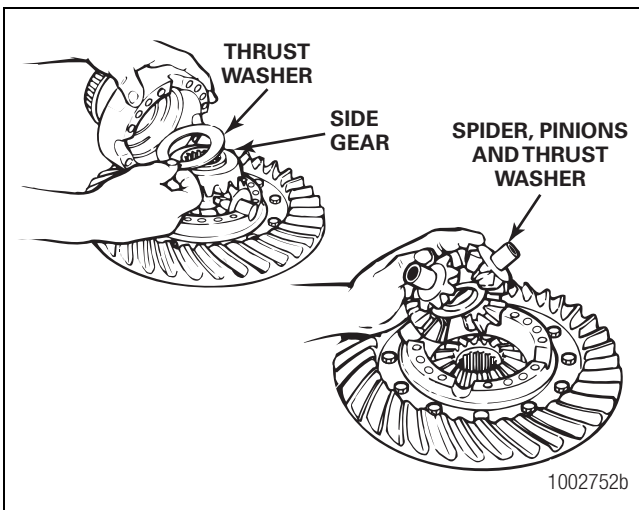

Figure 3.49
3. Remove the spider, pinions, thrust washers and side gears from the separated case assembly. Figure 3.49.